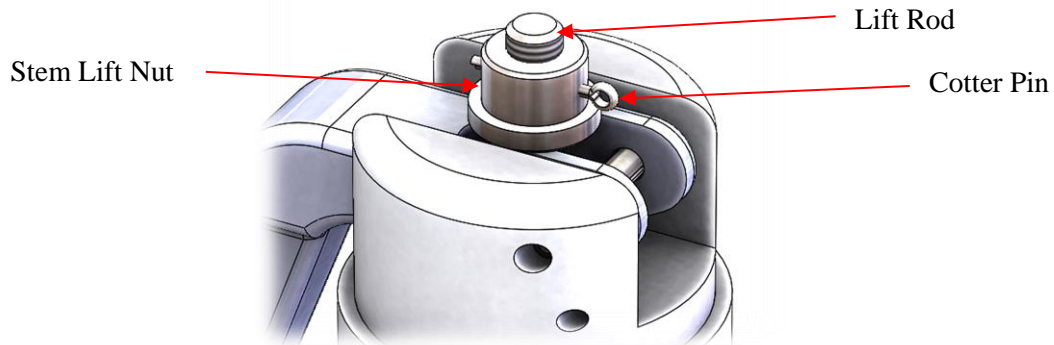

Figure 24: Upper Portion of Lift Lever Cap
2. Bend straight and pull out the cotter pin. See Figure 24. Set it aside.
3. Unscrew and remove the stem lift nut. See Figure 24.